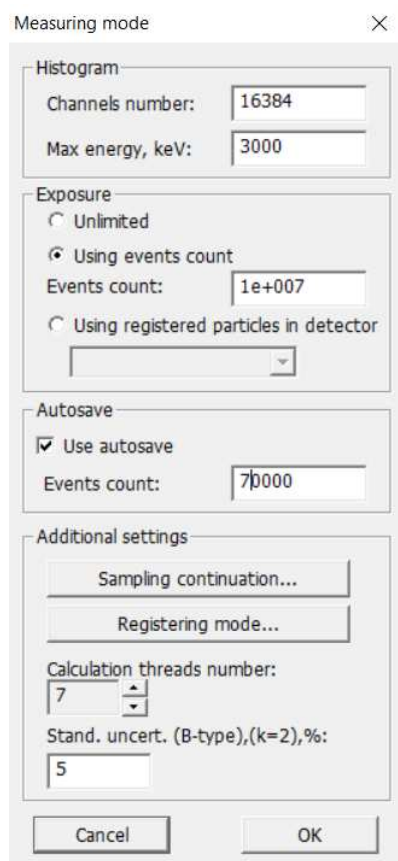

Figure 54.2
8.1.2 In the menu of the window **Calculation** select the menu item **Options-> Measuring mode**. In the appeared window **Measuring mode** specify values in the fields, as shown in figure 54.2. The number of events in the **Exposure** group can be set more or less depending on the required statistical accuracy. Also, the **Channels number** in the group **Histogram** should be specified depending on the spectrum channels of the real spectrometer. Click **OK**. [Section 4.4].